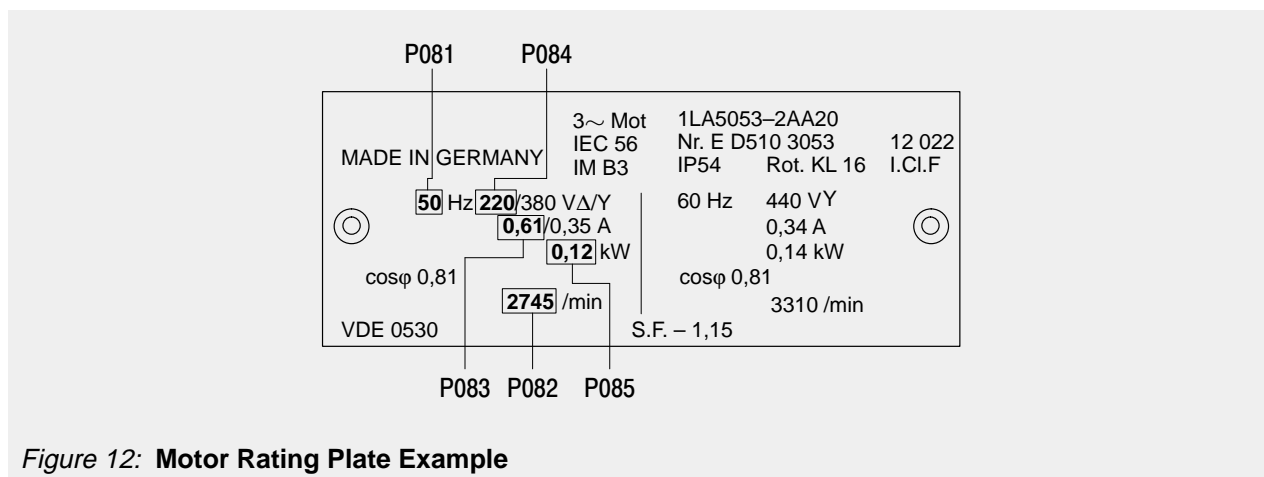

Figure 12: Motor Rating Plate Example
- (1) The inverter does not have a main power switch and is therefore live when the mains supply is connected. It waits with the output disabled for the RUN button to be pressed or for an ON signal via terminal 8 (rotate right) or terminal 9 (rotate left) – see parameters P051 – P055.
- (2) If output frequency (P001 = 0) is selected as the display, the corresponding setpoint is displayed approximately every 1.5 seconds while the inverter is stopped.
- (3) The inverter is programmed at the factory for standard applications on Siemens four-pole standard motors. When using other motors it is necessary to enter the specifications from the motor's rating plate into parameters P081 to P085 (see Figure 12). Note that access to these parameters is not possible unless P009 has been set to 002 or 003.
- (2) Set parameter P005 to the desired frequency setpoint.
- (3) Check parameters P081 to P085 and ensure that they match the requirements stated on the rating plate on the motor (see Figure 12).
- (4) Press the RUN button (I) on the inverter's front panel. The inverter will now drive the motor at the frequency set by P005.
- (5) Set parameter P006 to 001 to specify analogue setpoint.
- (6) Set parameters P021 and P022 to specify the minimum and maximum output frequency settings.
- (7) Set parameters P081 to P085 in accordance with the rating plate on the motor (see Figure 12).
- (8) Set the external on/off switch to ON. Turn the potentiometer (or adjust the analogue control voltage) until the desired frequency is displayed on the inverter.